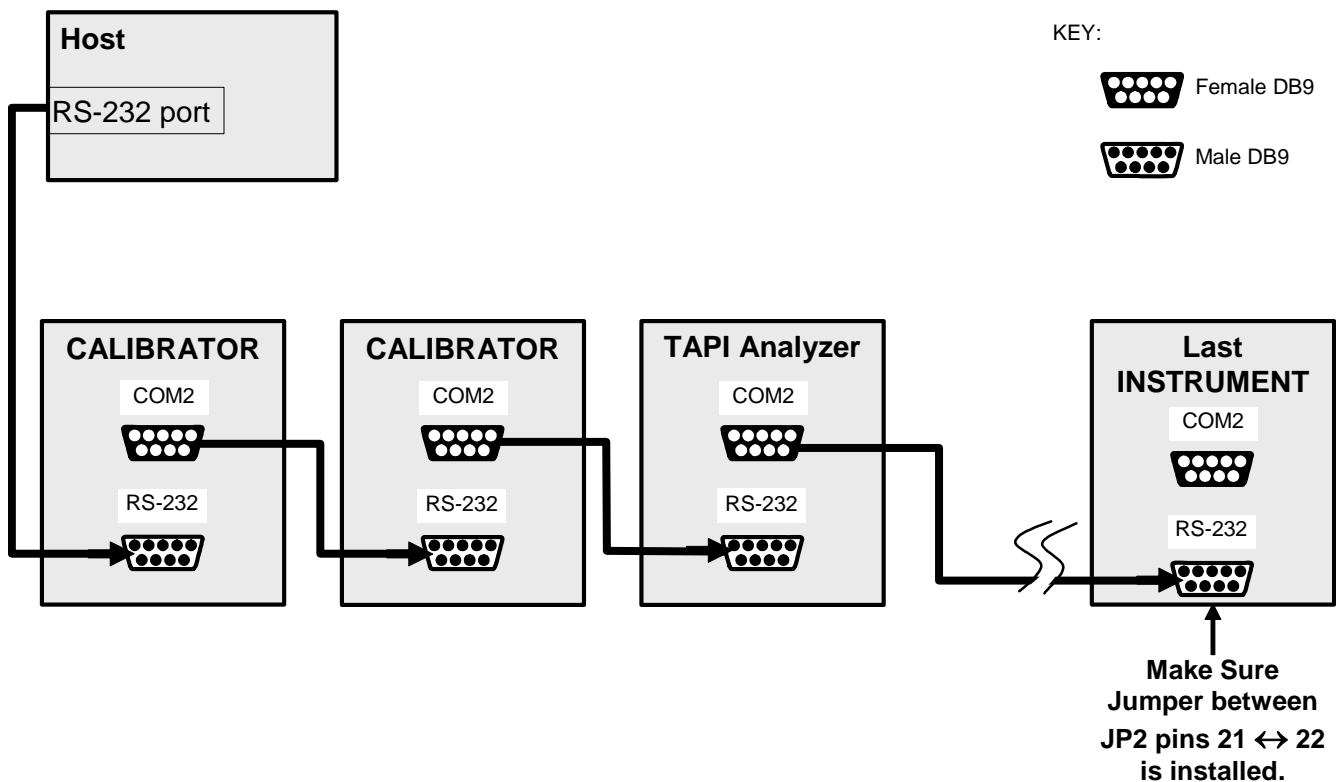

Figure 7-4: RS-232 Multi-drop PCA Host/Calibrator Interconnect Diagram
4. Using straight-through, DB9 male → DB9 Female cable, interconnect the host and the analyzers as shown in Figure 7-4.
5. BEFORE communicating from the host, power on the instruments and check that the Machine ID code is unique for each. (This ID is also called the Hostname; see Section 7.4.2). On the front panel menu, use SETUP>MORE>COMM>ID. Note that the default ID is typically the model number; to change the 4-digit identification number, press the button of the digit to be changed). Figure 7-4.